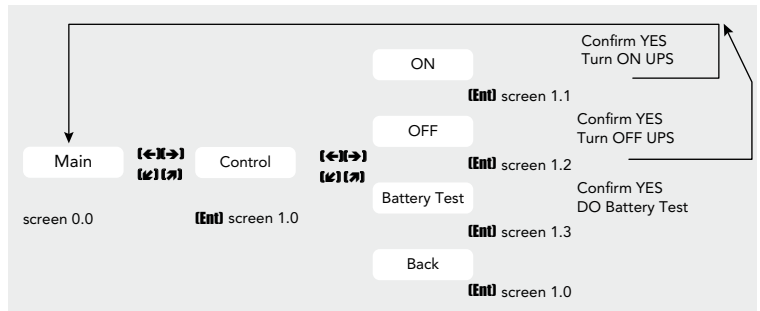
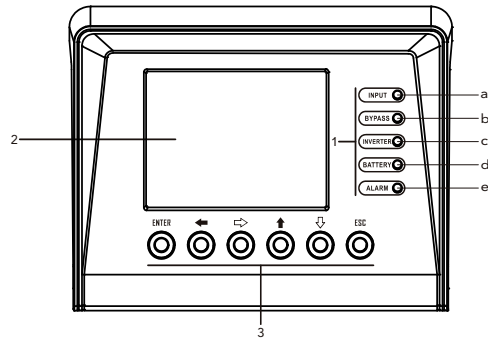

Fig.24: Procedure start-up/shutdown
Fig.25: LED indications control panel (PC)
At this point, with no alarm active, green LED indications of input voltage OK, and orange LED indication of Unit on Bypass should light ((a), (b) from Fig.25).
Start up the inverter. The start-up operation will be done through the keypad of the control panel ((3) from Fig.25). Select "CNTL" and press (ENT) into control submenu (screen 1.0), and then select "ON" and press (ENT) once. You will get to screen 1.1, asking you to start the unit up "yes" or "no", you can select "Yes" by pressing (ENT). See following screen diagram (Fig.24).
Before continuing, be sure that the LED indication (c) Inverter is working and is it (green), and (b) Unit on Bypass is turned OFF (see Fig.25).
- Shutdown the inverter. Through the keypad of the control panel ((3) from Fig.25), go down to "CNTL" submenu (screen 1.0), and select "OFF". You will get to screen 1.2, asking you to shut down the unit by pressing (ENT), see Fig.24.
- Shut down the inverter. Through the keypad of the control panel ((3) from Fig.25), go down to "CNTL" submenu (screen 1.0), and select "OFF". You will get to screen 1.2, asking you to shut down the unit by pressing (ENT), see Fig.24.
- Remove the screws that attach the mechanical block (BL).
- Remove the mechanical block (BL) of the manual bypass switch (Q5) and set it to "On" position.
Start up the inverter. The startup operation will be initiated through the keypad of the control panel ((3) from Fig.25). Select "CNTL" and Press (ENT) into control